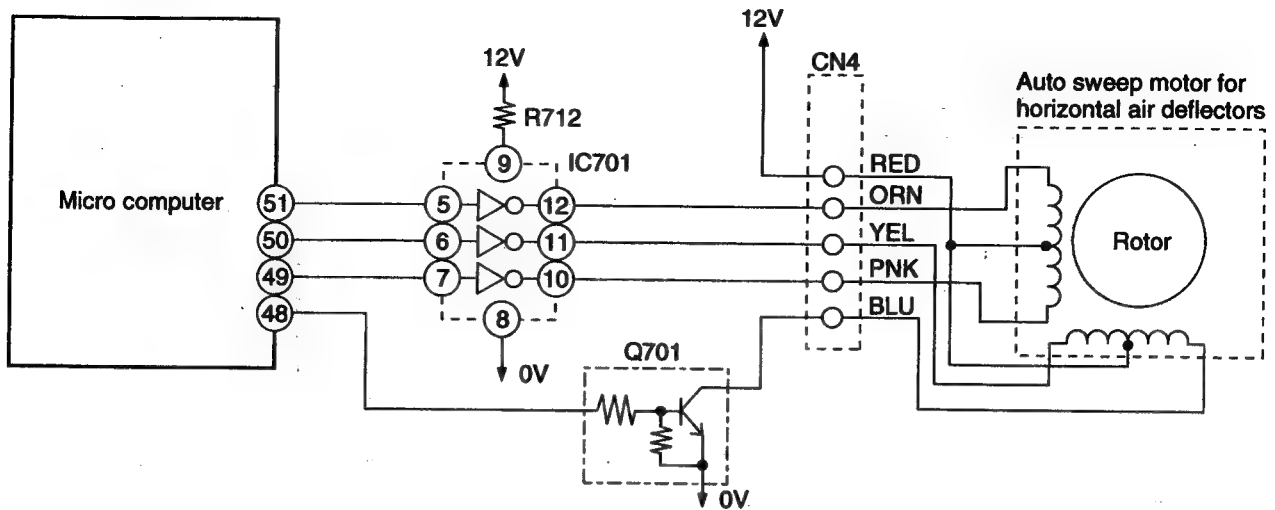

Fig. 4-1 Auto Sweep Motor Circuit (Horizontal air defectors)
- Fig.4-1 shows the Auto sweep motor drive circuit; the signals shown in Fig.4-2 are output from pins ④⑧ - ⑤① of the micro computer.